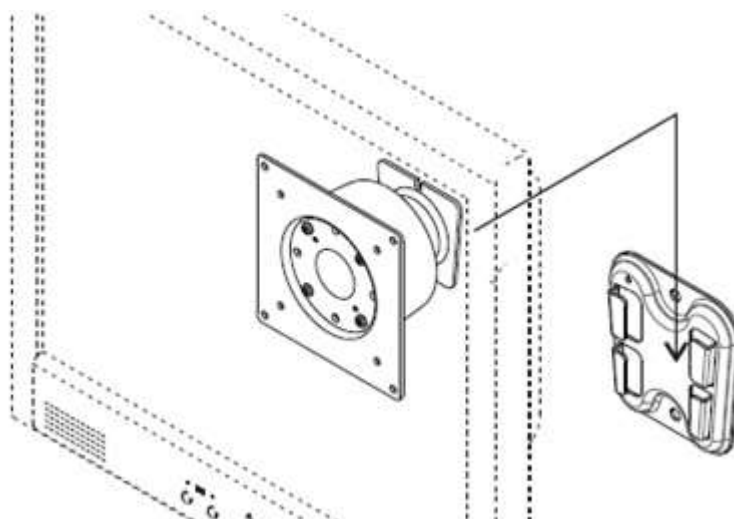

Figure 2.24 Mounting the panel PC on a wall
7. To mount the panel PC on the wall, align the wall mount bracket attached to the panel PC with the wall mount plate on the wall and slide the panel PC downwards to hang the bracket on the mount plate (Figure 2.24).